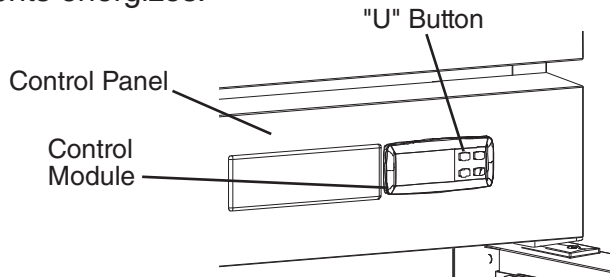

Fig. 1
- 4) **Warmup**— After a slight delay, CM display energizes. FM, HTR, and HR (2-section) energize. Cabinet temperature begins to increase. If the cabinet temperature is not displayed on the control module, press and hold the "U" button on the control module for 2 seconds. See Fig. 1.